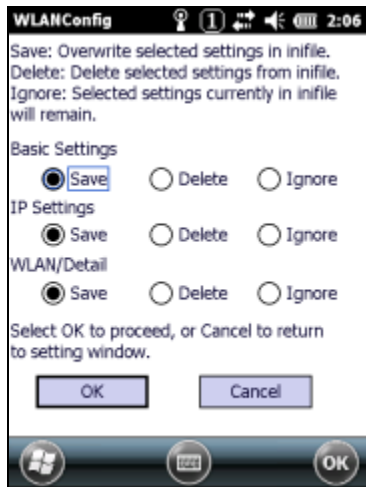

Figure 5.6
5. If **OK** button is clicked, the screen in Figure 5.6 appears. Tap **OK** button to perform a reset on the terminal so that the setting takes effect.